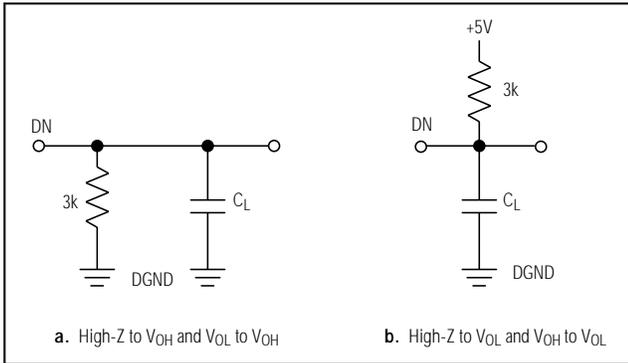

Figure 1. Load Circuits for Access Time
- Note 15:**  $t_3$  and  $t_6$  are measured with the load circuits of Figure 1 and defined as the time required for an output to cross 0.8V or 2.4V.